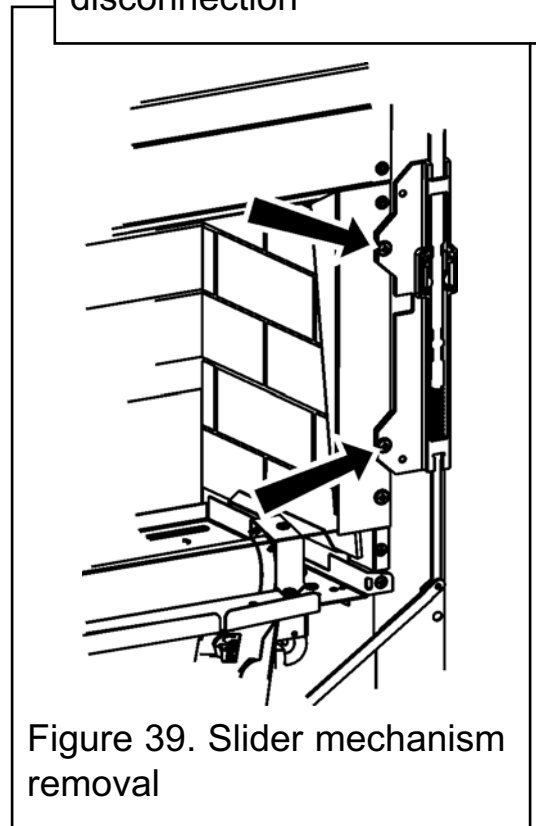

Figure 39. Slider mechanism removal
3. Detach the slide unit by removing two screws securing it to the convector box flange (See figure 39).